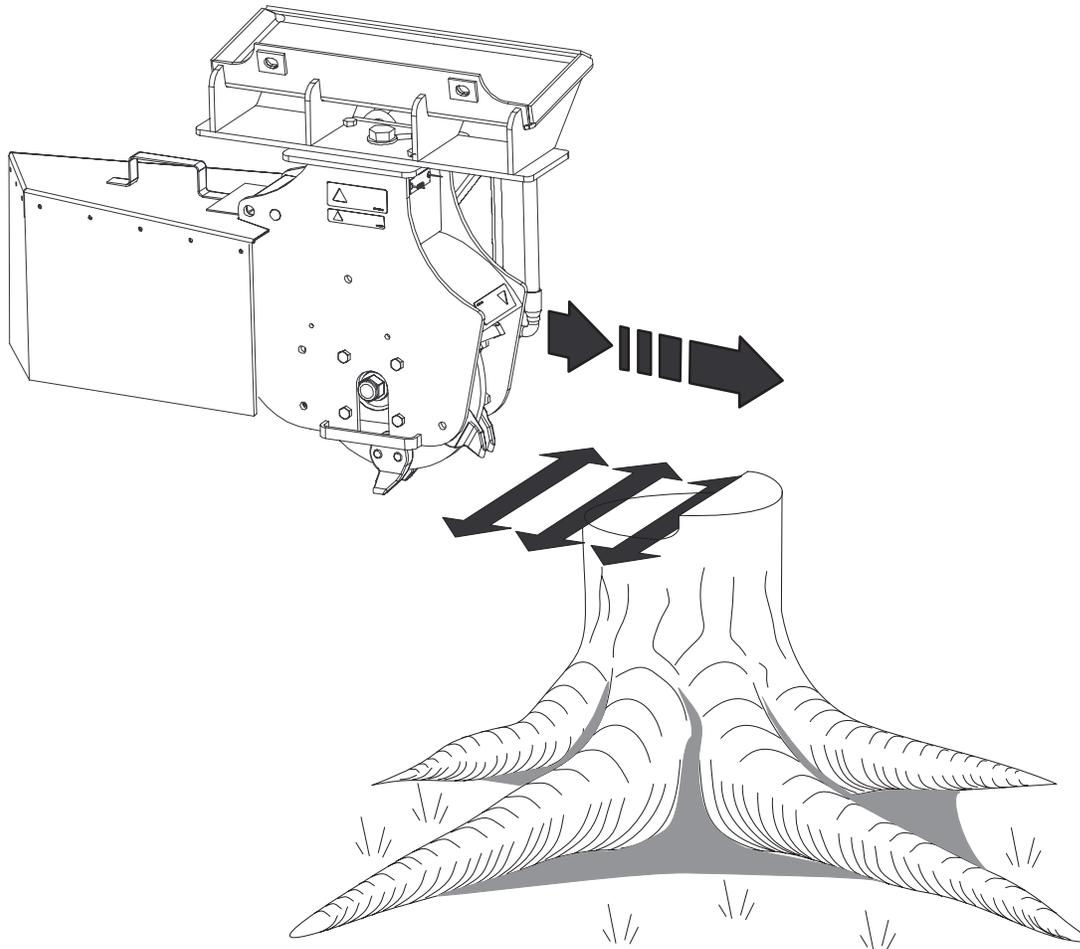

Figure 7
4. Position the grinder on the left side and behind the stump (Fig. 7).
5. Swing the grinder toward you using the attachment tilt lever, grinding at a depth of 1/4 to 2 in. (0.5 to 5 cm), depending on the hardness of the wood (Fig. 7).
6. Swing the grinder back out (Fig. 7), lower it 1/4 to 2 in. (0.5 to 5 cm) and repeat steps 4 through 6 until you have ground down a few inches.
8. Move the grinder to the right (Fig. 7).